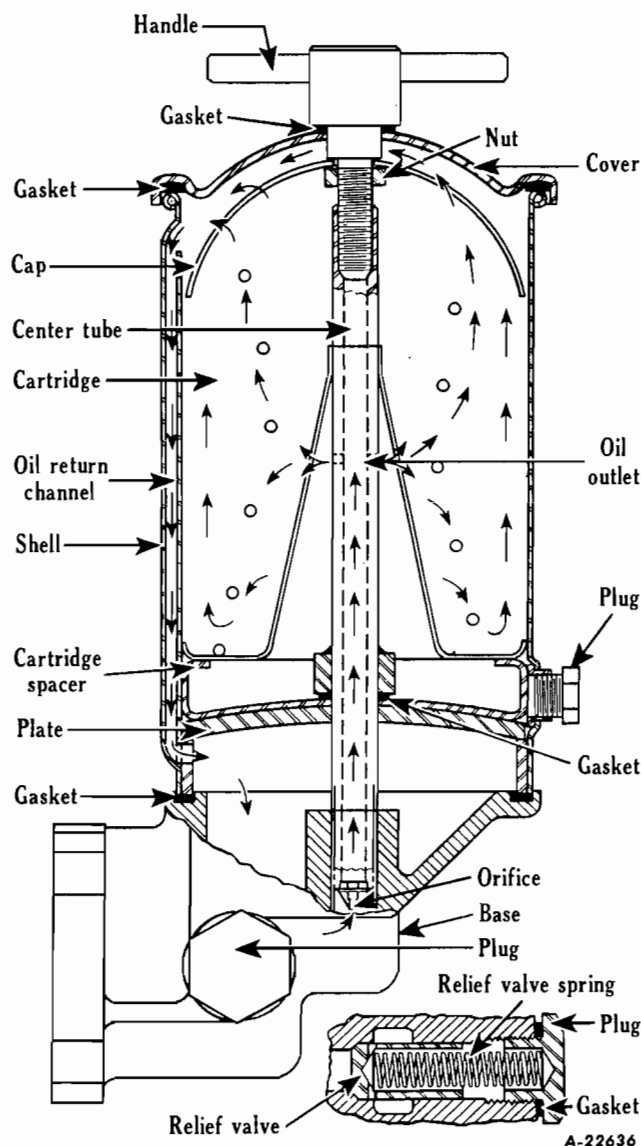

Fig. 57 - DeLuxe Oil Filter
1. The DeLuxe oil filter is used on the RD engines and incorporates a removable sump (Fig. 57).